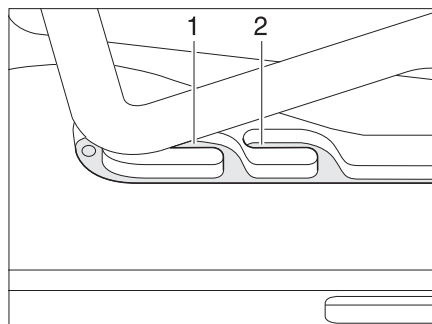
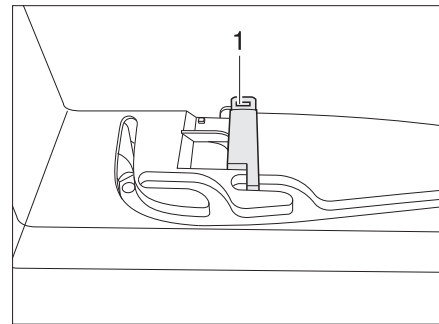

Fig. 45 Heki skylight in ventilation position
Fig. 46 Ventilation position locking mechanism
The Heki skylight can be put in two ventilation positions: Bad weather position (Fig. 45,1) and central position (Fig. 45,2). Depending on the model, the skylight can be locked in the central position with the latch (Fig. 46,1).
- Push the bar slightly upwards and into the selected guide (Fig. 45,1 or 2) and lock if necessary.